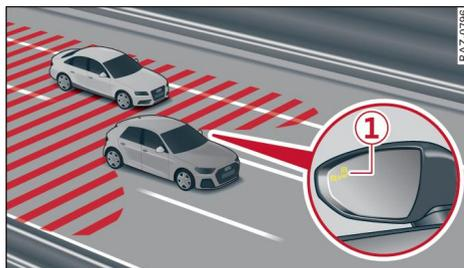

Fig. 102 Driving situation and warning signal on exterior mirror
- The area covered by the sensors ⇒ *Fig. 102* is an example and does not represent the range of the sensors to scale.